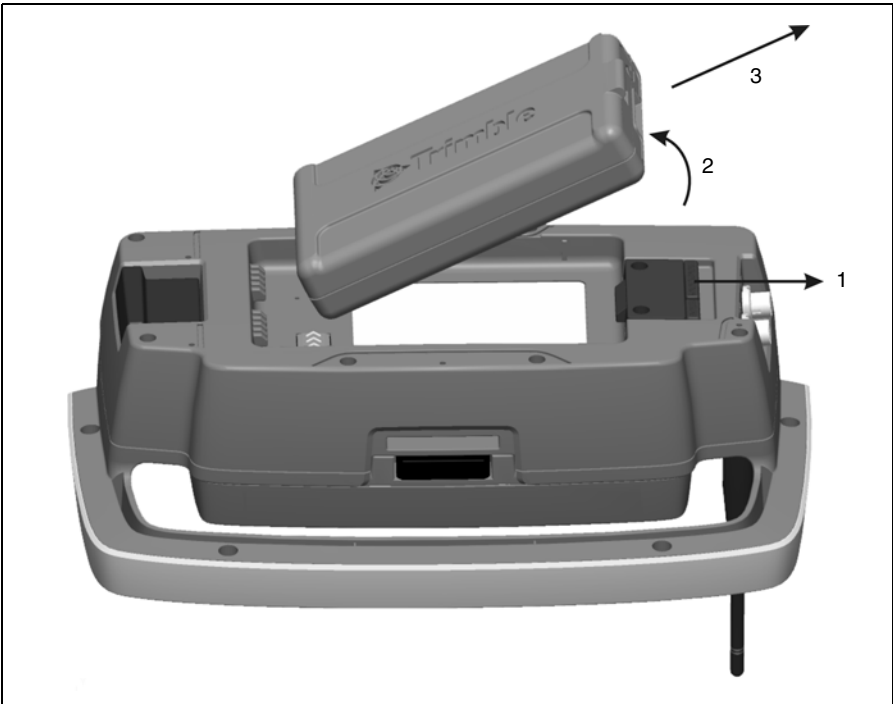

Figure 7.72 Detaching a battery from the Trimble Robotic Holder
1. Pull the battery lock mechanism away from the battery (1).
2. Lift up this side of the battery (2).
3. Remove the battery from the holder (3). See figure 7.72.